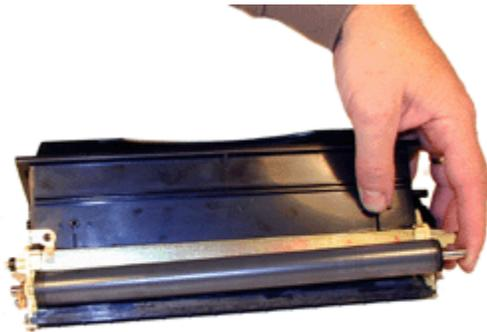

FIGURE 32
29. Install the developer roller. If the shims have become damaged, the white Lexmark type shims will work. See Figure 32